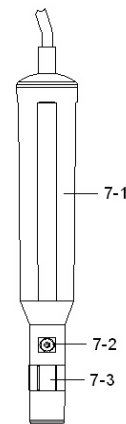

Fig. 5
- 1) Unscrew the " Probe head " (7-3, Fig 5).
- 4) Screw the " Probe head " (7-3, Fig 5) into the probe body.